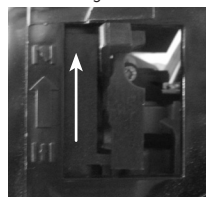

Fig 3
- 1) Move Choke Lever (16) to the "I" position (Fig 3).